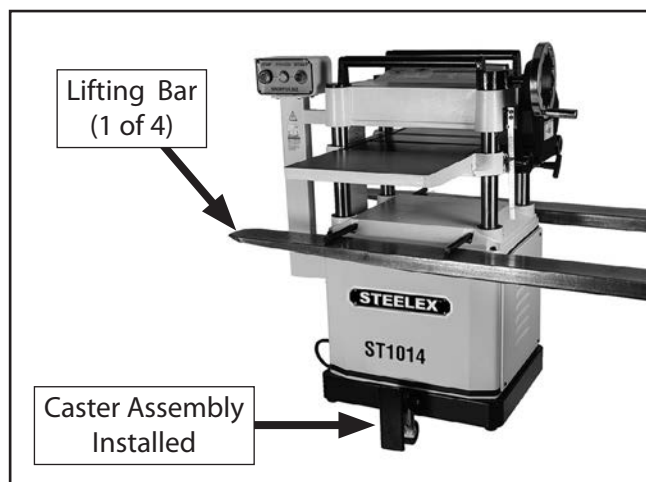

Figure 10. Lifting planer with forklift.
The planer is equipped with four lifting bars that extend in order to lift and place the planer, as shown in **Figure 10**.
1. Use forklift to lift machine off pallet (see **Figure 10**).